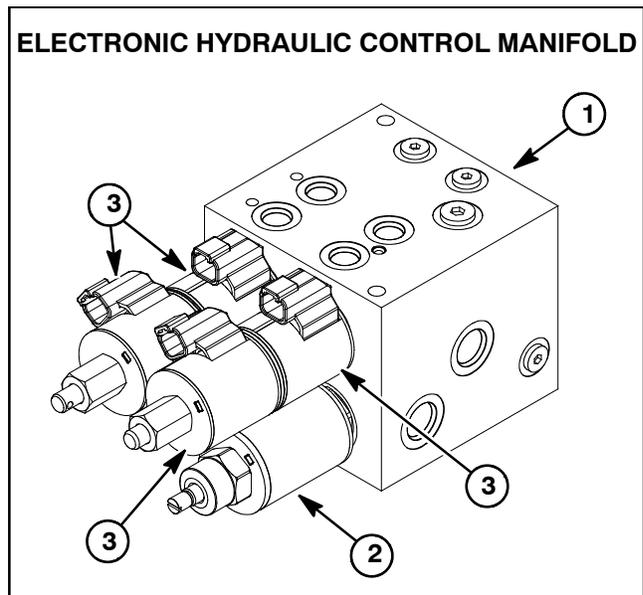

Figure 35
Machines with electronic hydraulic controls use two (2) different solenoid valve coils (Fig. 35). The double coils used on the solenoid valves are identical coils. The single coil used on the proportional flow valve is a different coil.